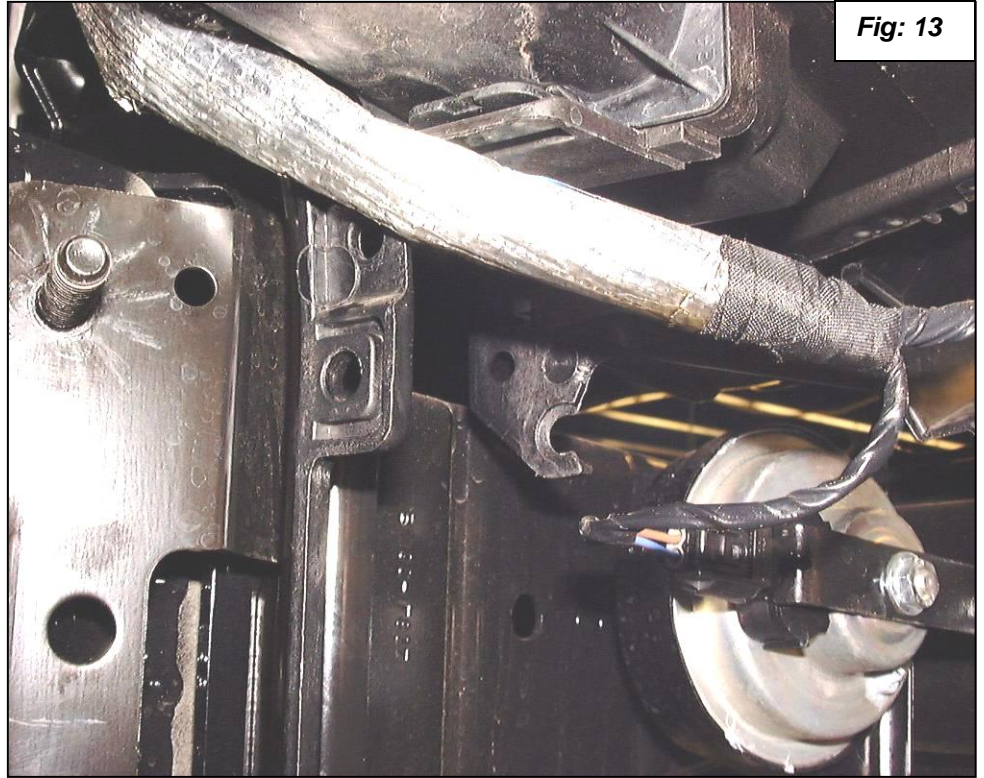

Fig: 13
18. Cut off part of the plastic mount that is not needed. You will need the space for clearance the oil cooler. See figures 13 and 14.